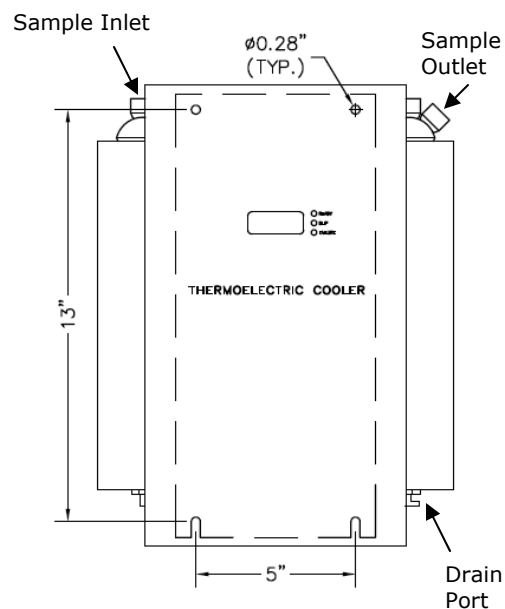

Figure 1 - Model 5210 Cooler
1. Connect the sample inlet to the 3/8" tube fitting shown in figure 1.
2. Connect the sample outlet to the 1/4" tube fitting shown in figure 1.
3. Connect the peristaltic pumps to the 1/4" barbed tube fittings shown in figure 1.